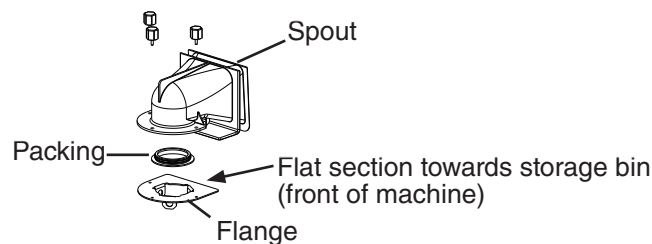

Fig. 7
- 11) Place and align the new extruding head and evaporator flange. See Fig. 7.
- 13) Replace the extruding head (with cutter), and evaporator flange in their correct positions. Confirm the cutter is tight. See Fig. 7.
- 24) Install the auger assembly with the upper part of the mechanical seal attached. Replace the cutter, extruding head, and evaporator flange in their correct positions and align the extruding head and evaporator flange holes. See Fig. 7.
- 19) Install the auger assembly with the upper part of the mechanical seal attached. Replace the cutter, extruding head, and evaporator flange in their correct positions. Align the evaporator flange holes with the extruding head holes. See Fig. 7.